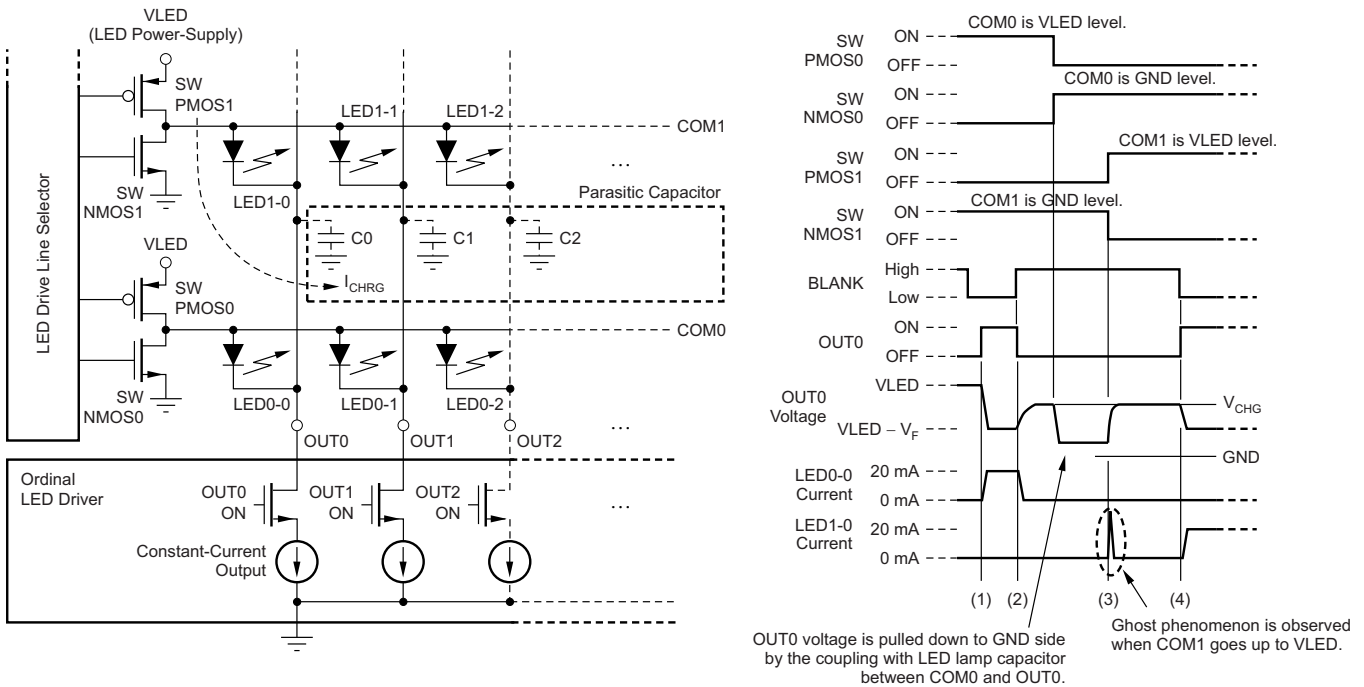

Figure 23. LED Ghost-Lighting Phenomenon Mechanism
The internal pre-charge FET prevents ghosting of multiplexed LED modules. One cause of this phenomenon is the parasitic capacitance charging current of the constant-current outputs ( $OUT_n$ ) and PCB wiring connected to  $OUT_n$  through the LED. One of the mechanisms is shown in Figure 23.
In Figure 23, the constant-current driver turns LED0-0 on at (1) and off at (2). After LED0-0 is turned off, the  $OUT_0$  voltage is pulled up to  $V_{CHG}$  by LED0-0. This  $OUT_0$  node has some parasitic capacitance (such as the constant-current driver output capacitance and the board layout capacitance shown as C0-2). After LED0-0 turns off, SWPMOS0 is turned off, SWNMOS0 is turned on for COM0, and COM0 is pulled down to GND. Because there is a parasitic capacitance between COM0 and  $OUT_0$ , the  $OUT_0$  voltage is also pulled down to GND. Afterwards, SWPMOS1 is turned on for the next common line (COM1). When SWPMOS1 turns on, the  $OUT_0$  voltage is pulled up from the ground voltage to  $V_{LED} - V_F$ . The charge current ( $I_{CHRG}$ ) flows to the parasitic capacitor (C0) through LED1-0, causing the LED to briefly turn on and creating a ghosting effect of LED1-0.